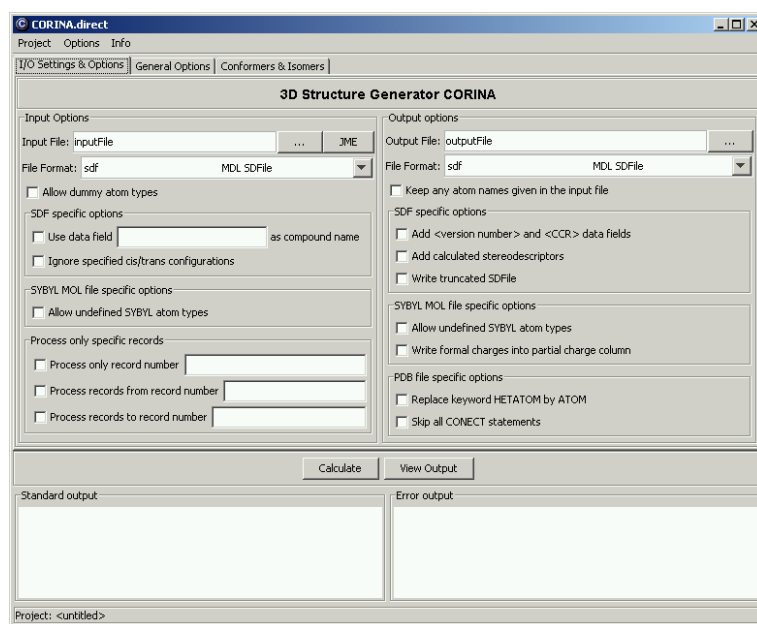

Figure 3 Graphical user interface of **CORINA.direct**.
CORINA.direct provides a main menu bar with the menus **Project**, **Options** and **Info** and three tabs **I/O Settings & Options**, **General Options** and **Conformers & Isomers** (see Figure 3).
- 6) Click on **OK**. **CORINA.direct** now starts displaying the **I/O Settings & Options** tab on your screen (see Figure 3).
- 6) Click on **OK**. **CORINA.direct** now starts displaying the **I/O Settings & Options** tab (see Figure 3).